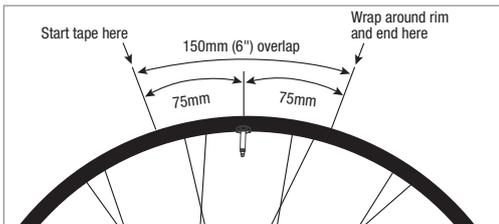

Figure 5
- Begin taping 75mm to one side of valve. Wrap 360° around rim and end 75mm on other side of valve to provide a 150mm (6") tape overlap (Fig. 5).